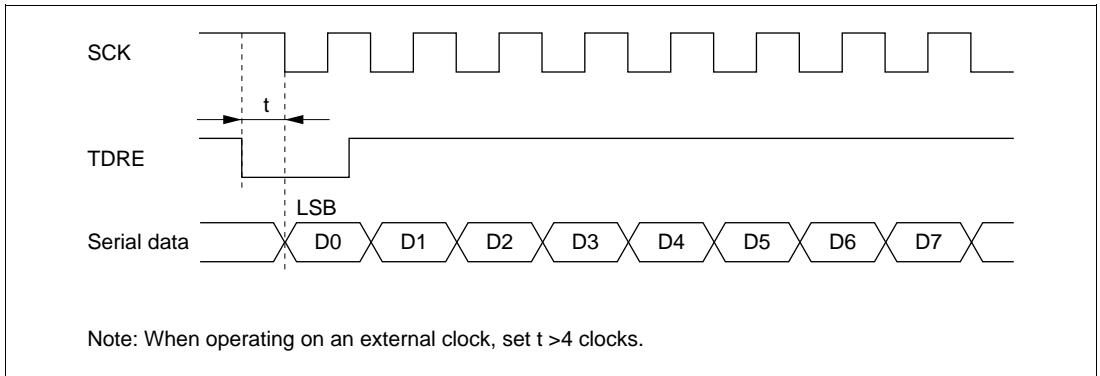

Figure 12-27 Example of Clocked Synchronous Transmission by DTC
- When an external clock source is used as the serial clock, the transmit clock should not be input until at least 5ϕ clock cycles after TDR is updated by the DMAC or DTC. Misoperation may occur if the transmit clock is input within 4ϕ clocks after TDR is updated. (Figure 12-27)